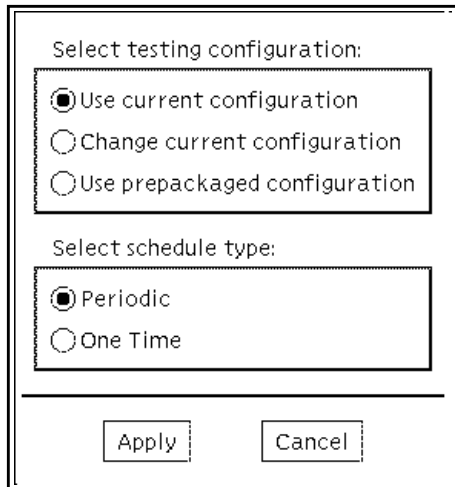
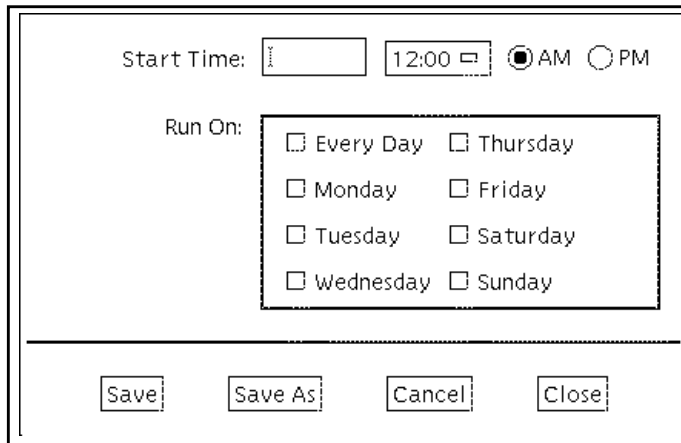
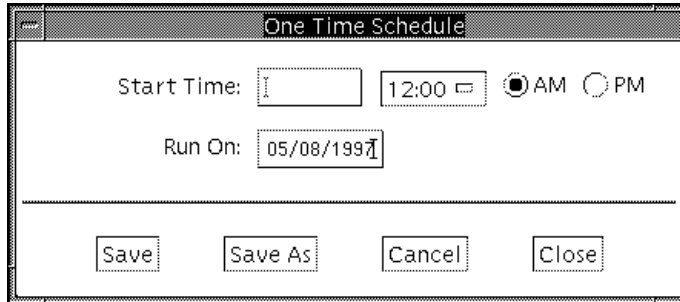

FIGURE 3-9 Create Option Under the Schedule Menu
FIGURE 3-11 Periodic Schedule Form Display
FIGURE 3-12 One Time Schedule Form Display
The following screen is displayed (see FIGURE 3-9).
- 3. Select the schedule type (Periodic or One Time) on the bottom of the dialogn box shown in FIGURE 3-9.**
- If you select “Use current configuration,” you will next see the screen for either testing type: Periodic (see FIGURE 3-11) or One Time (see FIGURE 3-12).
- FIGURE 3-11 if you checked Periodic in FIGURE 3-9
- FIGURE 3-12 if you checked One Time in FIGURE 3-9
5. Fill out the schedule then click **Save** or **Save As** with the left mouse button (see FIGURE 3-11 or FIGURE 3-12).